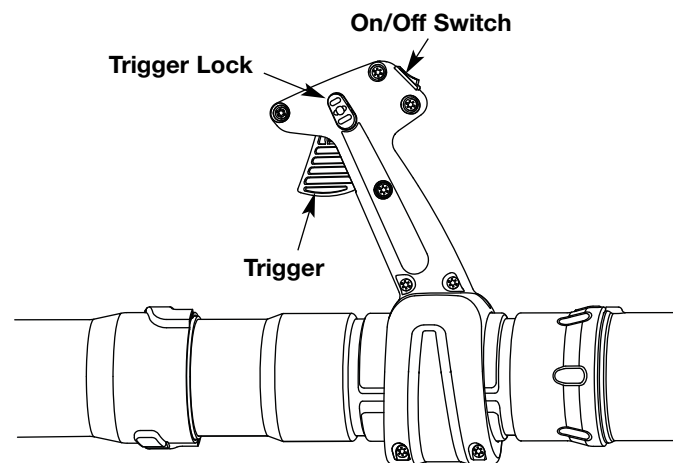

Fig. 15
**NOTE:** The unit should be started in idle. Do not squeeze the trigger while starting (Fig. 15).
**HOT RESTART:** If the unit is already hot, place the choke lever in **Position 3** and pull the starter rope to restart. **The unit should be started in idle. Do not squeeze the trigger while starting** (Fig. 15).
2. Press the On/Off Stop Control switch in the OFF (O) position and hold until the engine comes to a complete stop (Fig. 15).
- Use the trigger lock (Fig. 15) to keep the trigger depressed while operating to make continuous operation easier.